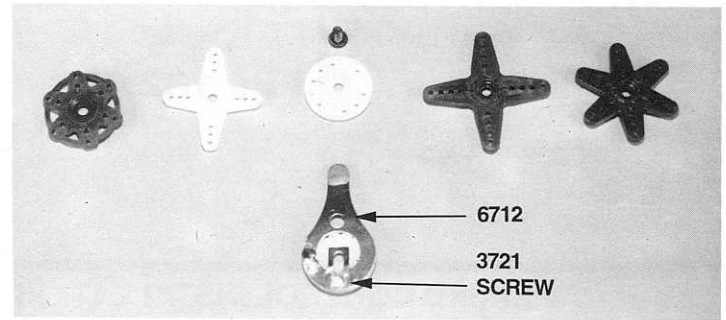

Fig. 137
Fig. 137, 138, 139 & 140 1) Still using bag #8-13 we now need to remove the #6712 throttle wiper arm, one #3721 #2 sheet metal screw (there should be two in the bag), and one #3721 #2 flat washer.
2) We now want to take out the servo you are going to use for your throttle. Fig. 137 shows five types of servo horn designs. The ideal design for this application is the small round servo horn shown in the center of the photo. While the other servo horn designs will work, they will require trimming so that they do not interfere with the wiper arm movement. 3) Mount the servo horn back onto the servo but do not install the screw. 4) Place the #6712 wiper arm over the servo horn (with the button side facing down). 5) The servo screw that secures the servo horn to the servo goes through the center hole of the wiper arm. Install this screw but do not tighten it yet. 6) Now look at the bottom of the wiper arm (the round area). You will see a small hole. Rotate the wiper arm until you can find a hole in the servo horn that lines up with the hole on the edge of the wiper. You have a little movement up and down with the wiper to help in finding a hole. 7) When you find a hole go ahead and use the #3721 screw and washer to secure the bottom of the wiper to the servo horn. 8) Now remove the servo screw and the servo horn. We want to reinstall the servo horn so that it lines up over the wide neutral band on the throttle resistor. The output shaft of the servo is splined so you can rotate the servo horn one spline at a time to adjust its starting position. Once you have it lined up correctly, go ahead and secure it to the servo with the servo horn screw.